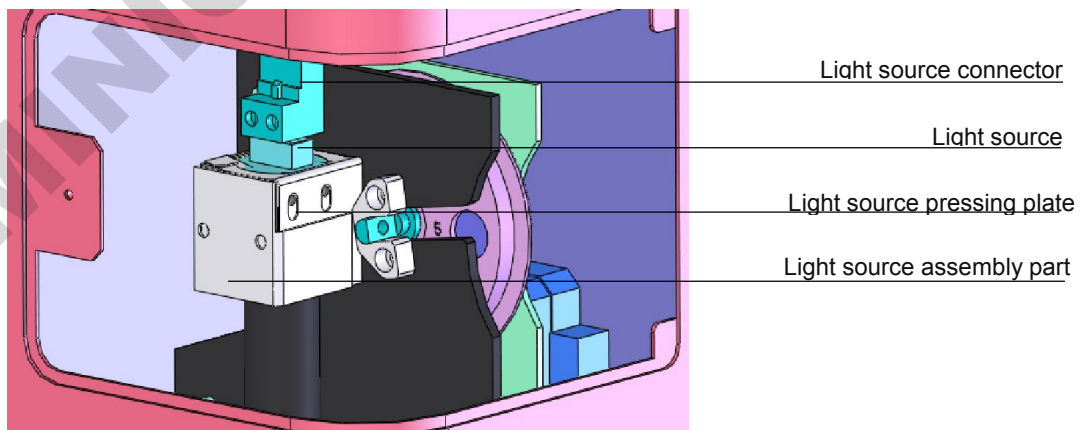

fig 56
- Open the back door of the instrument, light source showed as Fig 56, loose screws on light source connection by a small screw driver, remove connection upwards.